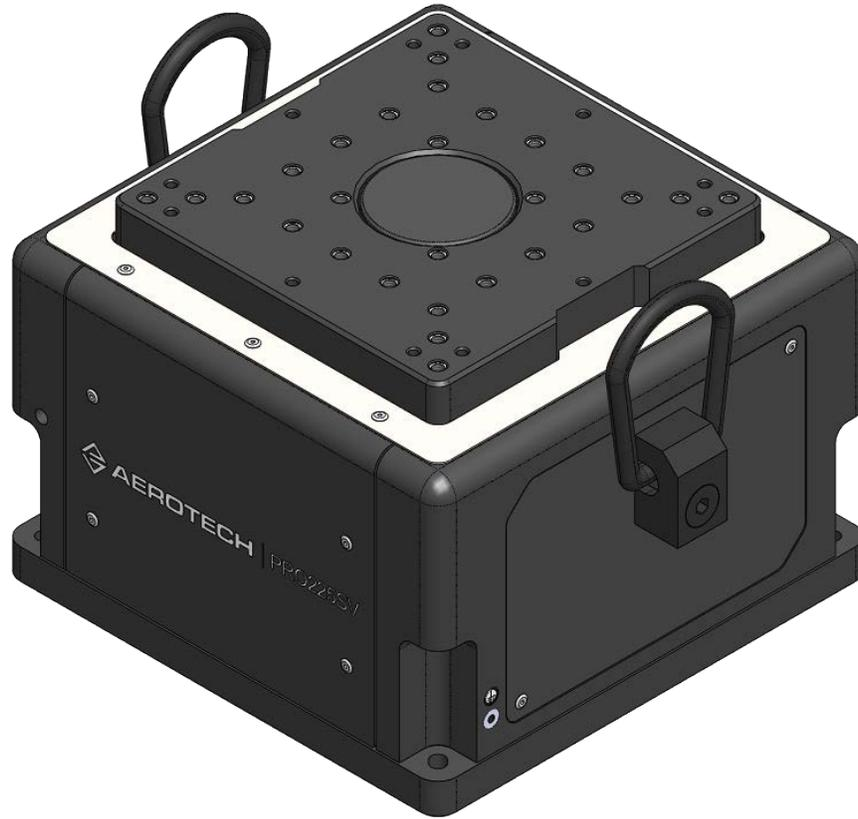

Figure 2-1: Lifting Features
- Use lifting hardware if it has been provided (refer to Figure 2-1).
The lifting kit includes two hoist rings. If the stage is equipped with the optional tabletop (-TT3), the tabletop must be removed before you install the hoist rings. To install, thread hoist rings into the designated holes (refer to Figure 2-1). If the stage is part of a multi-axis system, attach the lifting hardware to the lower axis. The lifting hardware must be removed before you operate the stage.